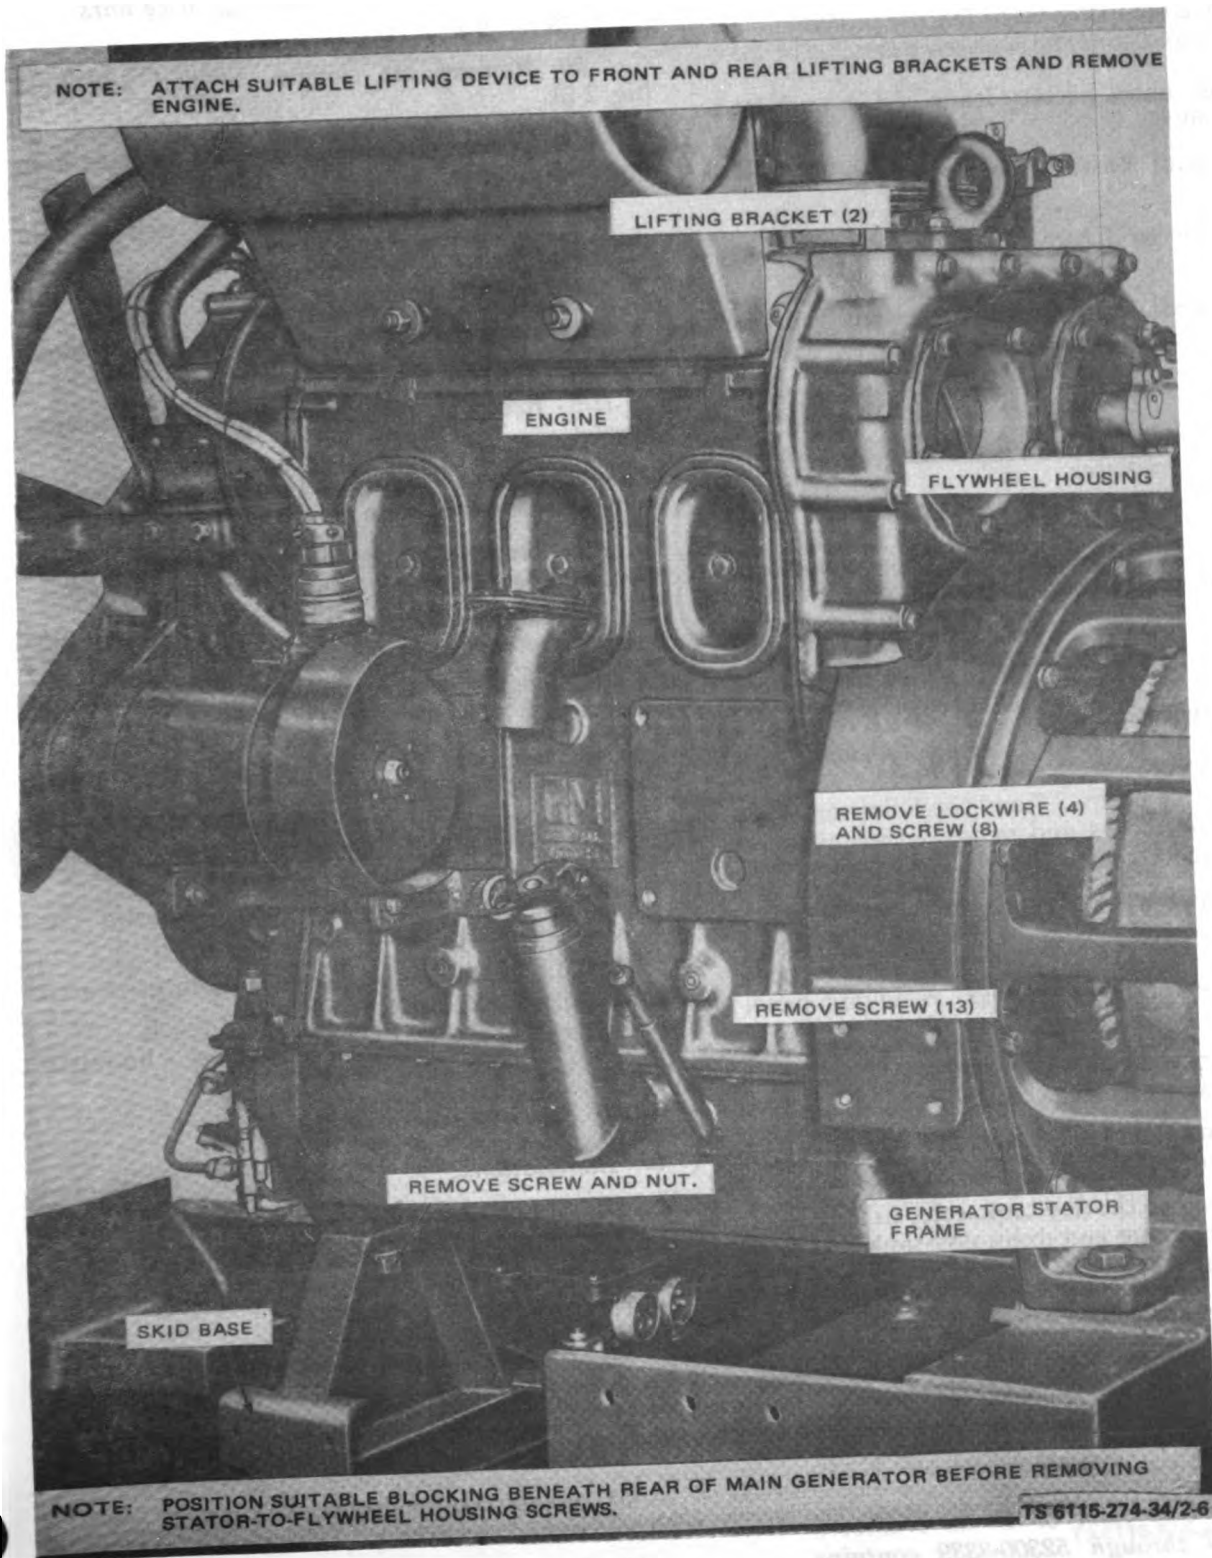

Figure 2-6. Engine, Removal and Installation
(20) Remove fuel tank cap and strainer.
(21) Remove screws securing ring to filler neck and remove ring and gasket.
(22) Loosen the clamps that secure the fuel filler hose, connecting the filler neck to the fuel tank, and remove the fuel filler and hose from the tank.
(23) Remove the heater exhaust pipe at center cowl.
(24) Remove screws, washers and nuts holding center cowl to base frame and remove center cowl.
(25) Refer to figure 2-6 and following steps to remove the engine.
(1) Attach suitable lifting device to front and rear lifting brackets and install engine on base (refer to fig. 2-6).
(2) Attach engine to skid base with screws and nuts.
(3) Attach flywheel housing to stator frame with screws.
(4) Attach stator frame to coupling plates with screws and lockwire.
(5) Remove blocking from under main generator.
(6) Attach center cowl to base frame with screws, washers and nuts.